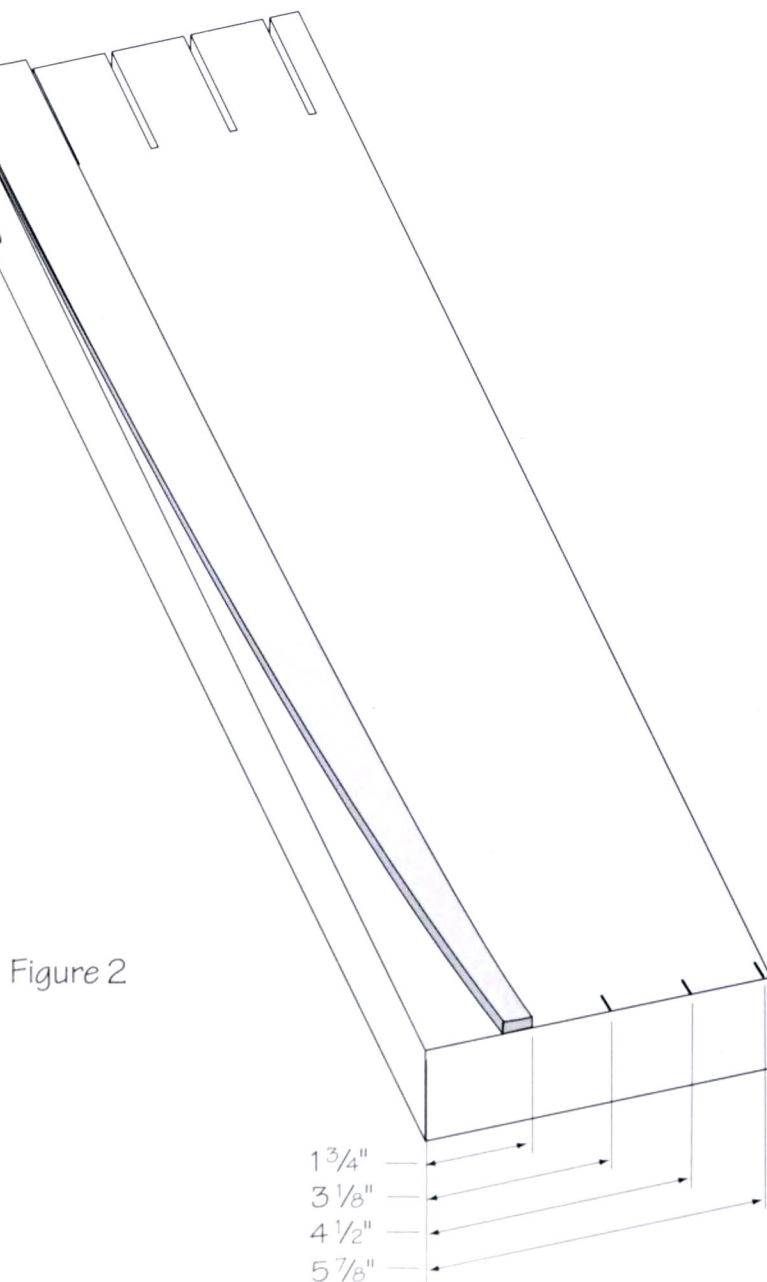

Figure 2
6. Lay the blank on your bench with its good face up. Measuring from the edge with a $1\frac{1}{4}$ " leg top, mark the other (leg bottom) end at $1\frac{1}{4}$ ", $3\frac{1}{8}$ ", $4\frac{1}{2}$ ", and $5\frac{7}{8}$ ". See figure 2. Lay the leg pattern on the blank, with its top end even with the $1\frac{1}{4}$ " area and the bottom point at the appropriate mark. Trace the pattern with a sharp pencil. Repeat for the other three legs.